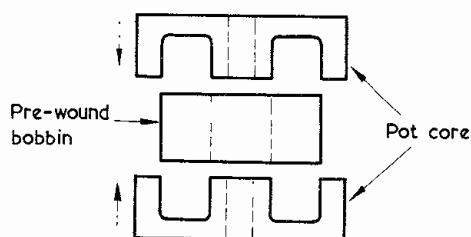

Fig. 3. Showing how L_2 is assembled
(7). Connect shorting links, using 32 s.w.g. sleeved wire, between 17c and 17i, and between 17b and 18f. Assemble the pre-wound L₂ bobbin in the pot-core, as shown in Fig. 3, and then bolt the assembly in position on the Veroboard panel. Solder the L₂ leads to holes 23f and 23j; the pot-core should be locked in position by brushing a dab of paint over the securing nut and bolt. Now wire a sleeved link between 19j and 19c, and another between 23k and 24e. Solder C₁₂ between 16i and 15j (positive to 16i), R₁₀ between 16j and 18j, and R₁₂ between 19d and 19e. Solder TR₄ in position, with emitter to 21b, base to 20c, and collector to 21d, and TR₅ with emitter to 25a, base to 24b, and collector to 25d, using heat shunts during the soldering operations for both transistors. Solder C₁₃ between